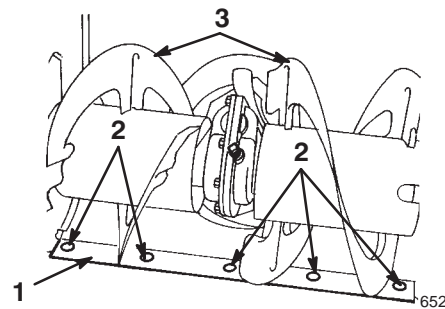

Figure 21
- Skid (2)
- Flange nuts (4)
- Auger side plate (2)
- Support the *auger blades* so that they are 1/8 inch (3 millimeters) off the ground (Fig. 21).
- To adjust the scraper, loosen the five mounting screws (Fig. 21), level the scraper, and tighten the mounting screws.